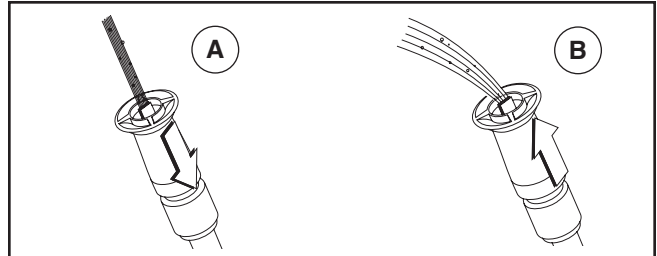

Figure 13: Adjusting nozzle for pressure
1. Slide nozzle backward (A) to achieve high pressure (Figure 13). Slide nozzle forward (B) when you wish to adjust spray to low pressure mode.